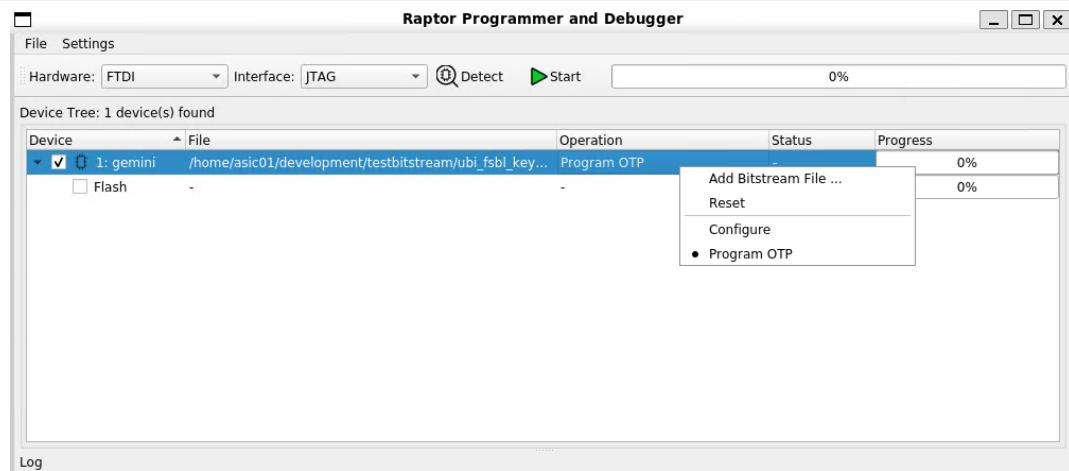

Figure 69. OTP programming
- ii. Right click the row again, select OTP programming operation, shown in figure 69.